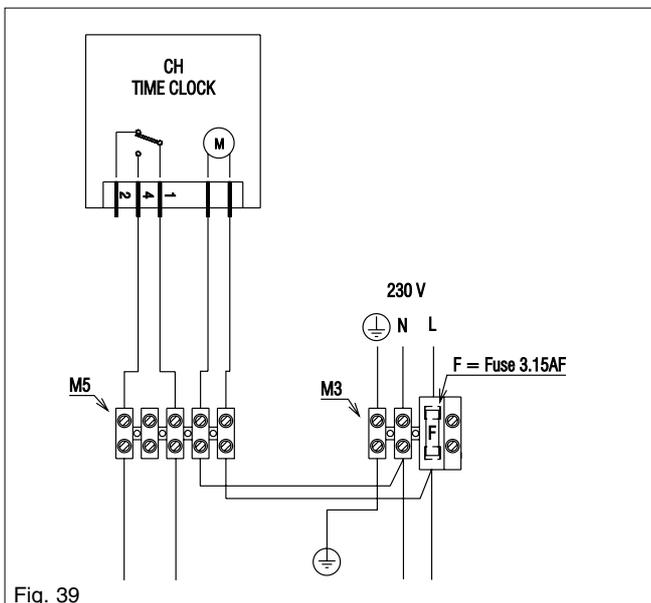

Fig. 39
- Single-channel, voltage-free time clocks (fig. 39).
Connect the spade connections of the wiring harness to the clock as shown in figure 39. Connect the other end of the wiring harness as detailed in figure 41.